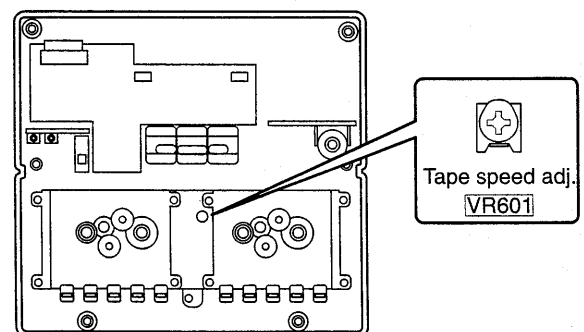

Fig. 5
4. Adjust VR601 for the output value shown below. (Fig. 5)